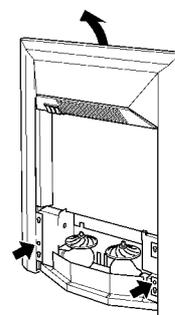

Figure 2
- Carefully remove the front surround by removing the two trim fixing screws and lifting upwards and forward – See figure 2.